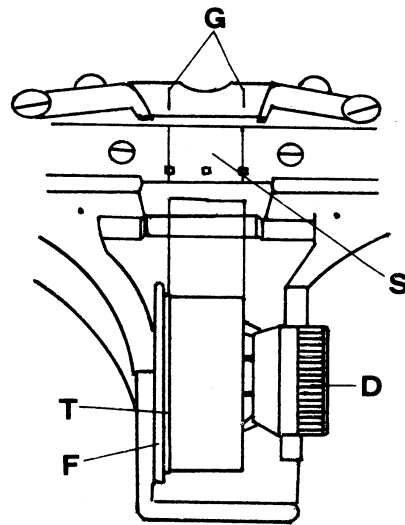

fig. 1
1) that the adhesive tape (S, fig. 1) — three or four superimposed layers — is applied to the matrix. It ensures that the little rectangles cut off by the perforators remain under the matrix and do not turn over sticking to the film.
- remove the adhesive tape layers (S, fig. 1) from matrix-centre, but **DO NOT** clean the little rectangles of adhesive tape cut off by the perforator, from the matrix holes.